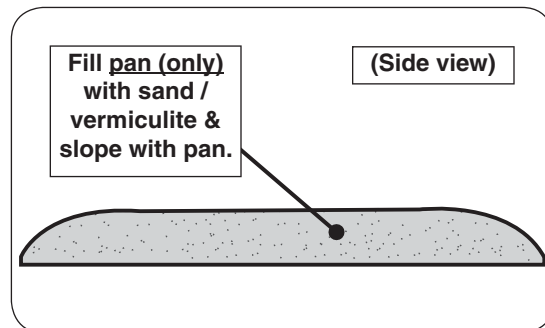

Fig. 20-2 Sand/vermiculite detail
2. **Slope the sand/vermiculite at the same angle as the burner pan.** This is important to ensure quiet lighting and even flame distribution. See Fig. 20-2.